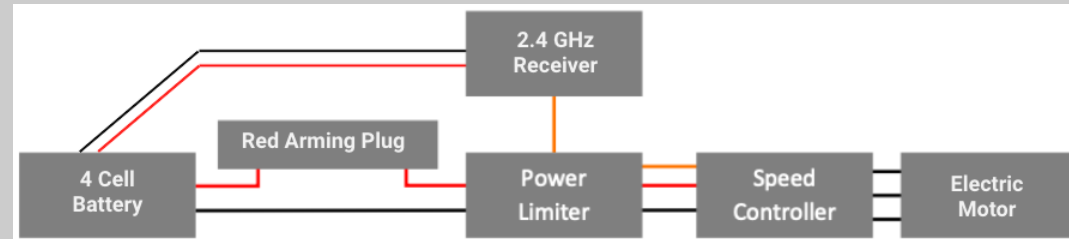

Figure 3: Aircraft Circuit Diagram [modified from 1]
- Figure 3 shows the circuit diagram that was used, it adheres to the SAE CRs.